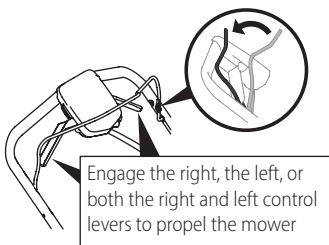

Figure 14
- Once the engine is running and while continuing to hold the blade control down, squeeze either (or both) drive controls against the upper handle to propel mower (Figure 14).